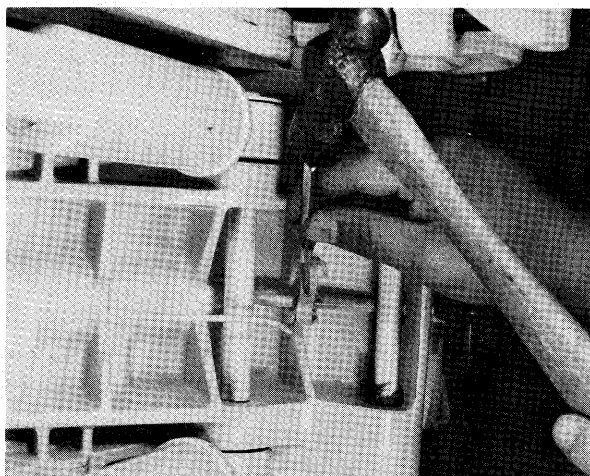

Figure 4 — Driving Out Spring Pin
- D. Remove reverse lock link from reverse lock arm. Drive out spring pin securing reverse lock arm to reverse lock release handle and shaft as shown in figure 4.
- lock release handle and shaft bore. Insert handle and shaft through bearings, then install plain washer and reverse lock arm on shaft. Install long bearing in swivel bracket to retain end of handle shaft. Align hole in reverse lock arm and hole in shaft (see figure 4 for positioning of reverse lock arm) and drive in spring pin to secure arm to shaft. Push washer against flange of inner nyloner bearing and install cotter pin to secure handle and shaft to swivel bracket.
- E. Install kingpin cap and secure with four (4) screws.